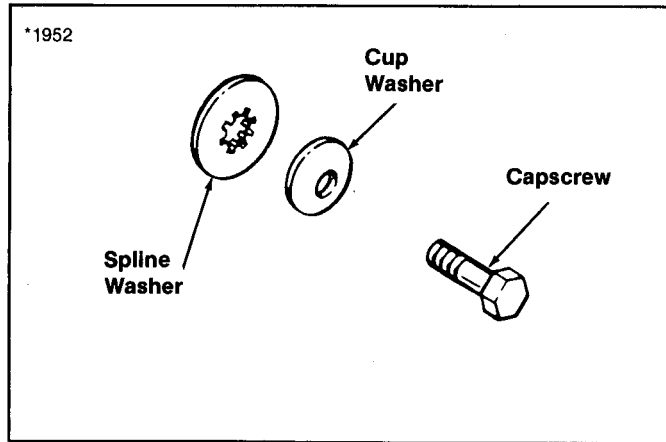

Figure 18. Blade Hardware
1. Reinstall the blade(s) with the tabs pointing upward. Install the spline washer, cup washer, and capscrew (see figure 18). Be sure the splines on the spline washer are engaged with the shaft splines. Be sure cup washer is installed with the concave side up.